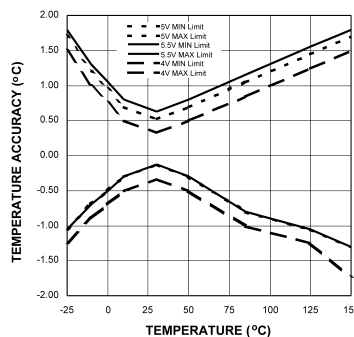
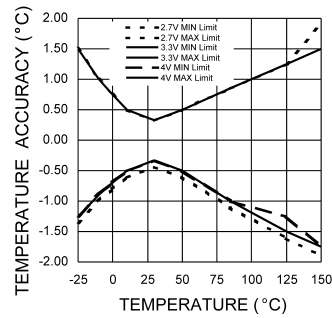

Figure 2. Accuracy vs Temperature with $+V_S = 5V$
Figure 3. Accuracy vs Temperature with $+V_S = 3.3V$
(1) Typical values are at $T_A = 25^\circ C$ and represent most likely parametric norm.
(2) Limits are guaranteed to TI's AOQL (Average Outgoing Quality Level).
(3) The limits found in Table 1 supersede the limits shown in the Electrical Characteristics Table. The Accuracy specification includes errors due to linearity, offset and gain. The accuracy specification includes effects of self heating with negligible digital output loading. Pull-up resistors should be maximized (10k typical recommended), so that self heating due to digital output loading is negligible.
(4) Limits at intermediate temperatures can be calculated using a straight line interpolation as shown in Figure 2 and Figure 3.
(5) Linearity Error is defined as the worse case difference of an actual reading to that of a calculated reading derived from the straight line whose endpoints are measured at $30^\circ C$ and $125^\circ C$ for the range of $30^\circ C$ to $125^\circ C$ or whose endpoints are measured at $30^\circ C$ and $-25^\circ C$ for the range of $30^\circ C$ to $-25^\circ C$.
(6) Offset Error calibration should be done at $30^\circ C$. The residual error of the transfer function is then equivalent to the Accuracy Limit minus the Offset Limit. This does not take into account the power supply sensitivity of the offset error. Nor, does it take into account the error introduced by the calibration system used.
(7) This specification is provided only to indicate how often temperature data is updated. The LM92 can be read at any time without regard to conversion state (and will yield last conversion result). If a conversion is in process it will be interrupted and restarted after the end of the read.
(8) 12 bits + sign, two's complement
(9) Default values set at power up.